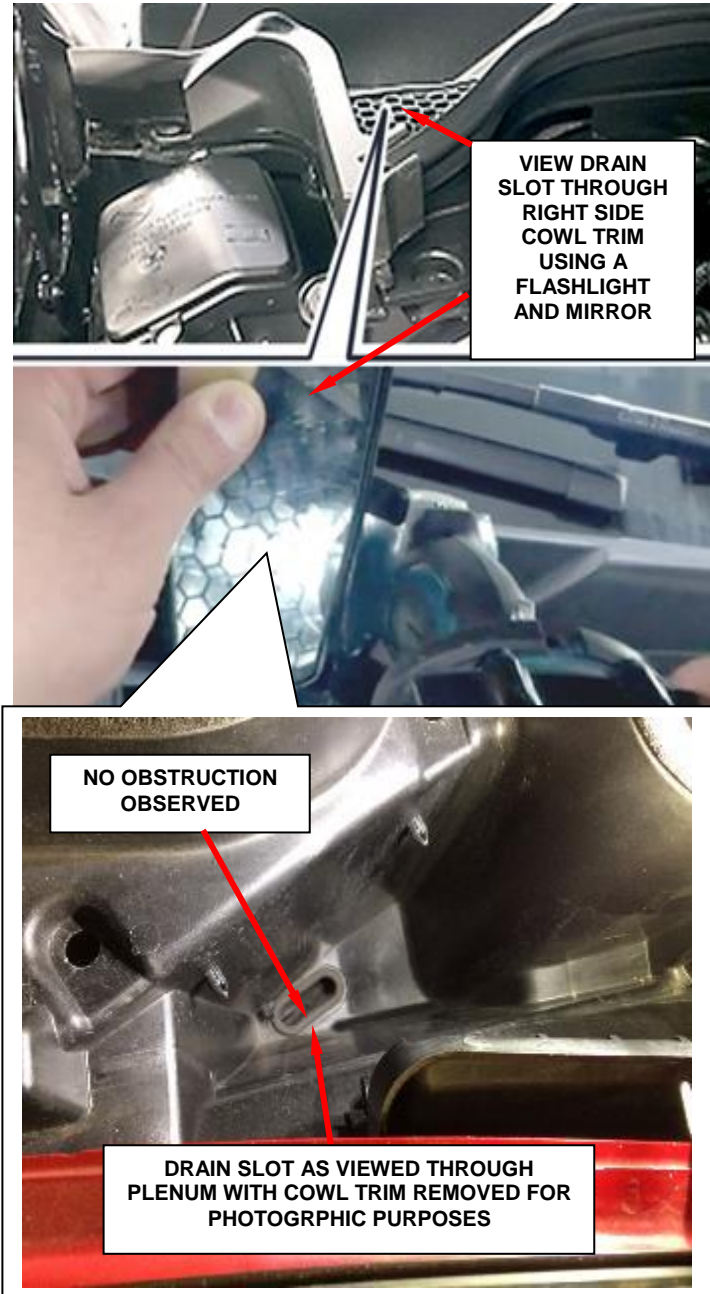

Figure 3 - Inspect Drain Slot for Obstruction (Cowl Trim Removed for Drain Slot Clarity)
1. Using a mirror and a light, position them as shown and check whether the water drain slot is clear. **No objects (wiring harness, foreign material) should be protruding up into/down through a portion of the drain slot grommet,** thus blocking the passage of water (Figure 3).